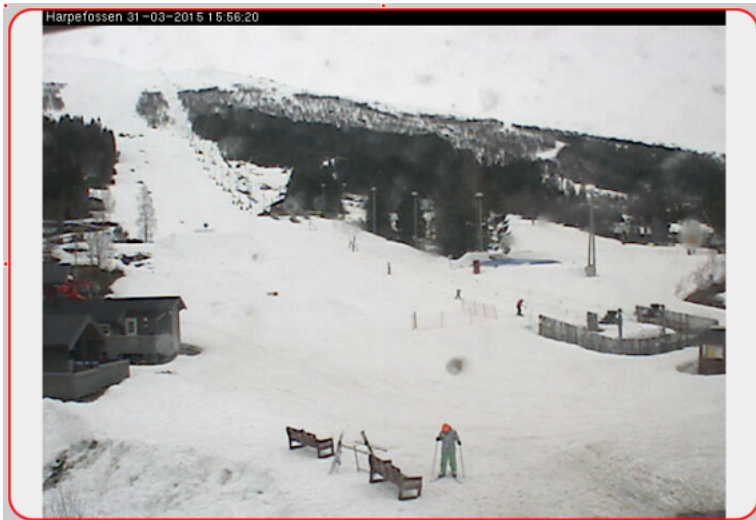

FIG. 37 Example button with a Dynamic Image applied
5. Click **OK** to close the *Bitmaps* dialog - the dynamic image will be represented in the selected UI element. As an example, FIG. 37 shows a button with a dynamic image applied: